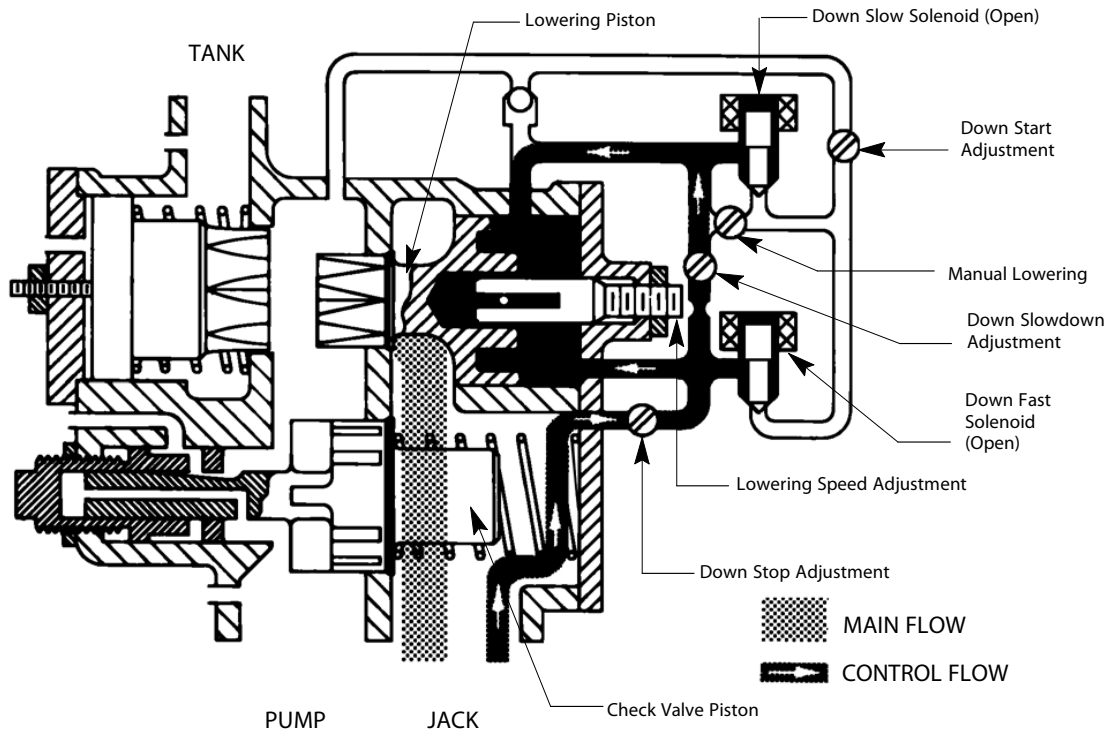

Figure 13 - Down Stop Diagram
1. To stop the car, the down slow solenoid is de-energized, stopping all flow to the tank. Pressure from the jack and the spring will cause the piston to close. See Figure 13.